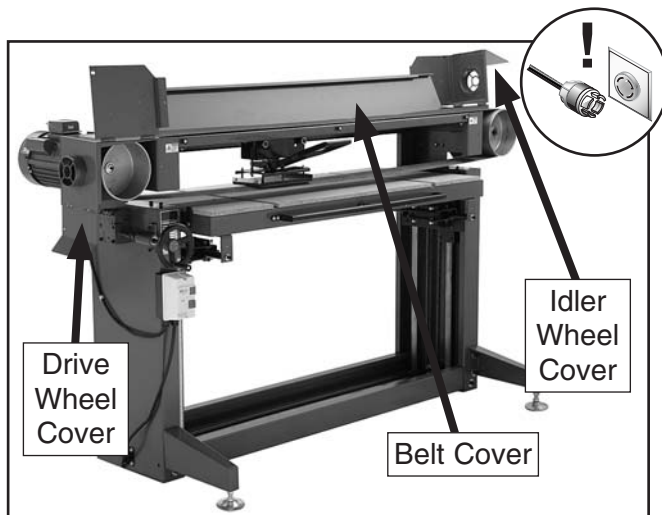

Figure 36. Belt covers open.
3. Open the belt cover, drive wheel cover, and idler wheel cover (**Figure 36**).